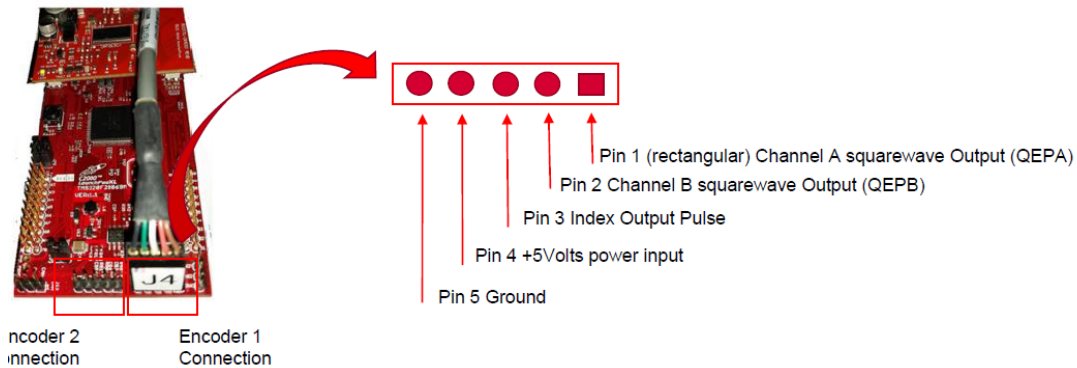

Figure 1: hardware setup and myRIO pinout
**Hardware Connection:** You will need to use jumper wires to connect the PWM output of the C2000 to the motor drive circuit and the motor encoder inputs to C2000 (Figure 1). You may switch pins for PWM A and B, or Enc A and B as you want, which depends on the rotating direction definition. Since the Motor was connected to myRIO, Table 1 shows the mapping for converting the myRIO to C2000 connection.